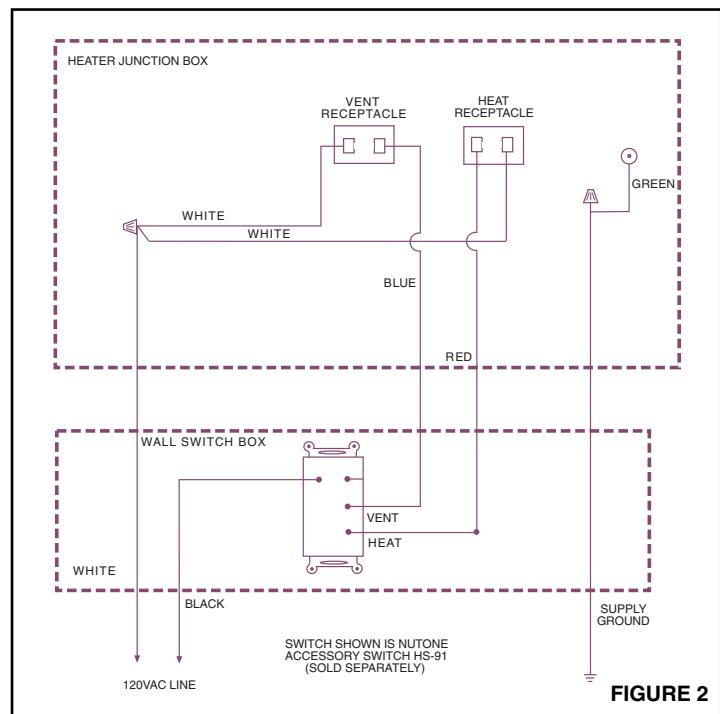

FIGURE 2
3. **Refer to Fig. 2.** Connect white wires in junction box to white (neutral) supply wire. Connect the blue wire from the two wire receptacle to the supply wire from the vent switch. Connect the red wire in the junction box from the three pin receptacle to the supply wire from the heat switch. Connect both green ground leads in the junction box to the supply ground.